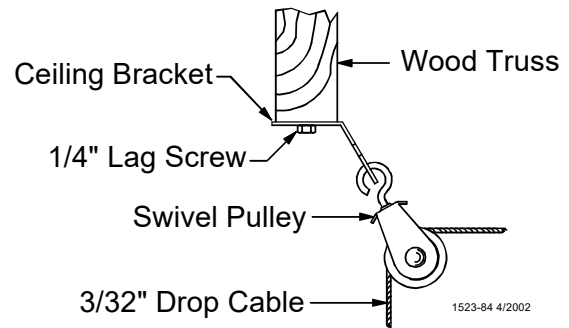

Figure 17. Pulley Installation
- After securing the Ceiling Hook to the truss, slide the hook of a Swivel Pulley into the slot, as shown in **Figure 17**.